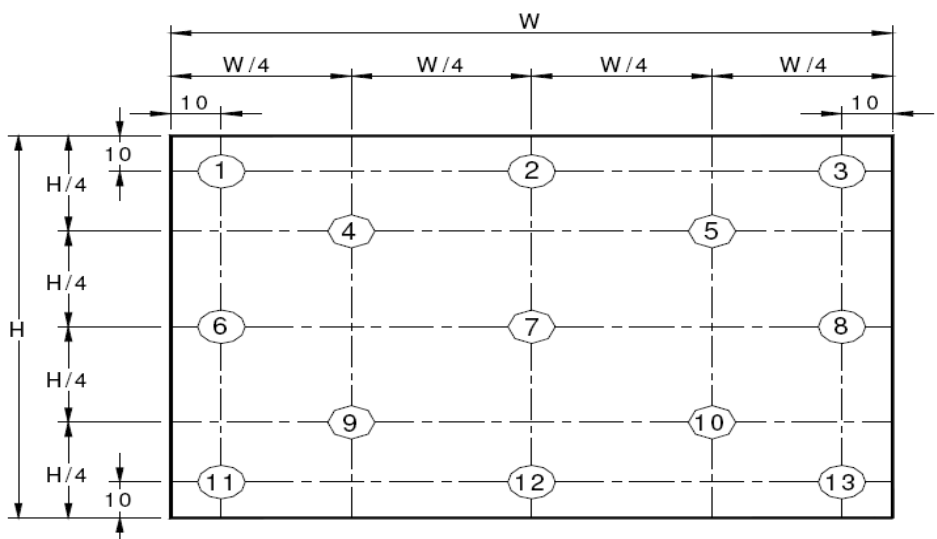

Figure 9. Uniformity Measurement Locations (13 points)
Notes : - Viewing angle is the angle at which the contrast ratio is greater than 10. The viewing angles are determined for the horizontal or 3, 9 o'clock direction and the vertical or 6, 12 o'clock direction with respect to the optical axis which is normal to the LCD surface (see Figure 7). - Contrast measurements shall be made at viewing angle of $\Theta = 0$ and at the center of the LCD surface. Luminance shall be measured with all pixels in the view field set first to white, then to the dark (black) state . (see Figure 7) Luminance Contrast Ratio (CR) is defined mathematically. CR = Luminance when displaying a white raster Luminance when displaying a black raster - Center Luminance of white is defined as luminance values of 5 point average across the LCD surface. Luminance shall be measured with all pixels in the view field set first to white. This measurement shall be taken at the locations shown in Figure 8 for a total of the measurements per display. - The White luminance uniformity on LCD surface is then expressed as : $\Delta Y = \text{Minimum Luminance of 5(or 13) points} / \text{Maximum Luminance of 5(or 13) points.}$(see Figure 8 and Figure 9). - The color chromaticity coordinates specified in Table 5 shall be calculated from the spectral data measured with all pixels first in red, green, blue and white. Measurements shall be made at the center of the panel. - The electro-optical response time measurements shall be made as Figure 10 by switching the “data” input signal ON and OFF. The times needed for the luminance to change from 10% to 90% is T_r, and 90% to 10% is T_f. - Cross-Talk of one area of the LCD surface by another shall be measured by comparing the luminance (YA) of a $10 \pm 1\text{mm}$ diameter area, with all display pixels set to gray 127(of 0 to 255), to the luminance (YB) of that same area when any adjacent area is driven dark.The luminance ratio shall not exceed 1:1.05 (See Figure 11).
The White luminance uniformity on LCD surface is then expressed as : $\Delta Y5$ = Minimum Luminance of five points / Maximum Luminance of five points (see Figure 8) , $\Delta Y13$ = Minimum Luminance of 13 points /Maximum Luminance of 13 points (see Figure 9).